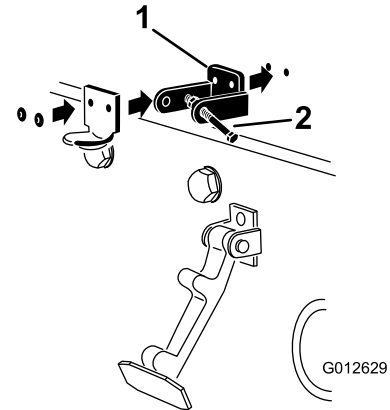

Figure 7
6. Rivet the brackets and the washers to the hood (Figure 7).